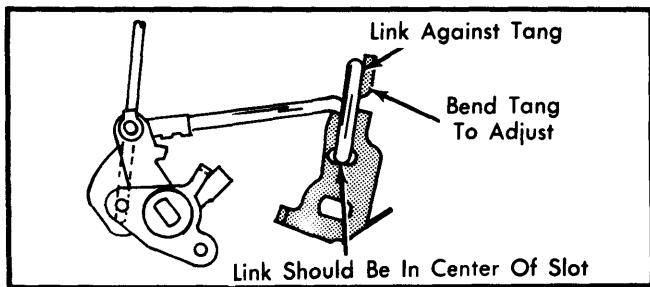

Fig. 14 Measuring Secondary Throttle Opening Linkage
1) Open primary throttle valves until secondary throttle link just contacts tang on secondary throttle lever. See Fig. 14.